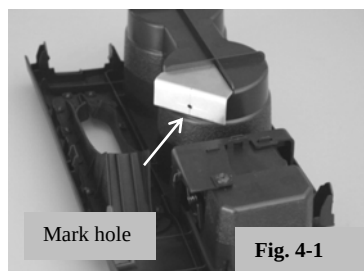

Fig. 4-1
- (a) Align Cup Holder marking template on bottom of the cup holders as shown. (Figs. 4-1 & 4-2)